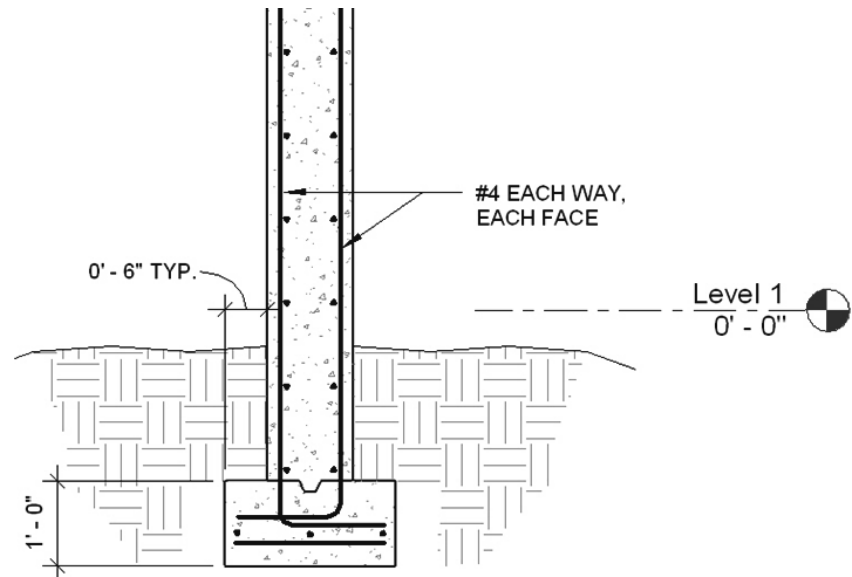

Figure 7–26
Wall footings for bearing and retaining are hosted by the walls. Once a footing is in place, you can add reinforcement, as shown in Figure 7–26. With the advantages of having a true foundation in place, you can accurately tag and schedule the footings.
- You can apply two types of continuous footing systems, as shown in Figure 7–27. You must have walls in your model to add a footing system.